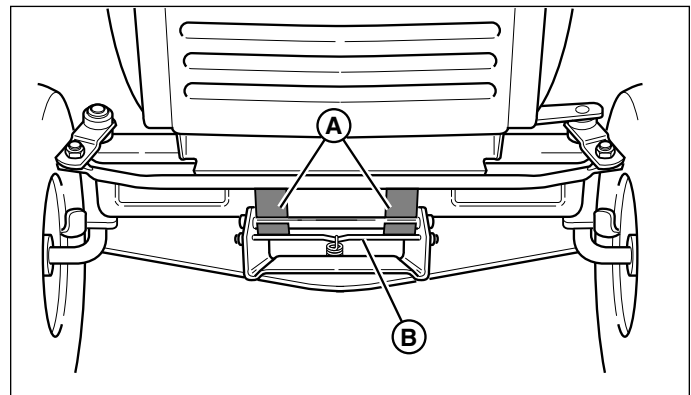

Figure 15. Mower Hitch
7. Disconnect lift chain (B) from lift hook (A). Repeat on other side.
8. Turn the wheels straight ahead. Pull back on spring-loaded lever (B, Figure 15) and lift mower hitch off of the tractor brackets (A).
2. Place mower in the lowest cutting position using the mower height adjuster. Slide the mower deck under the right side of tractor so that the mower hitch is aligned with front tractor hitch (A, Figure 15).
3. See Figure 15. Turn wheels straight. Pull back on the spring-loaded lever (B) while lifting up on the mower hitch. Install the mower hitch onto tractor hitch brackets (A). When properly installed, the spring-loaded lever should seat fully underneath the brackets (A).